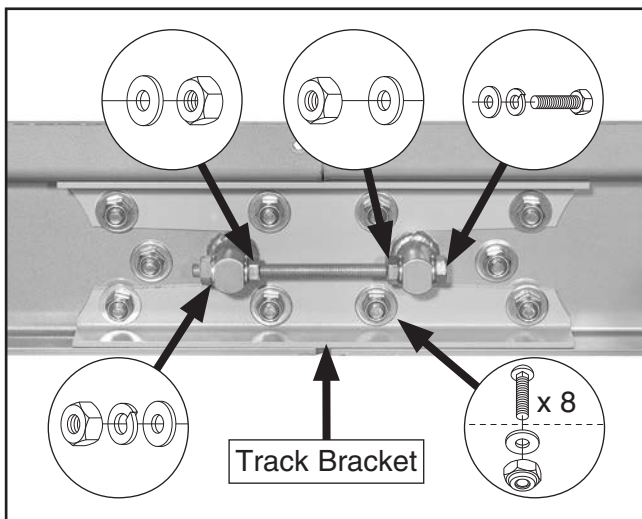

Figure 14. Properly assembled track bracket.
- Loosely attach track bracket on each side of track with (8) M10-1.5 x 25 carriage bolts, 10mm flat washers, and M10-1.5 lock nuts, as shown in **Figure 14**.
- Insert M10-1.5 x 180 hex bolt between track sections on each side of track with (4) 10mm flat washers, (2) 10mm lock washers, and (3) M10-1.5 hex nuts, as shown in **Figure 14**.